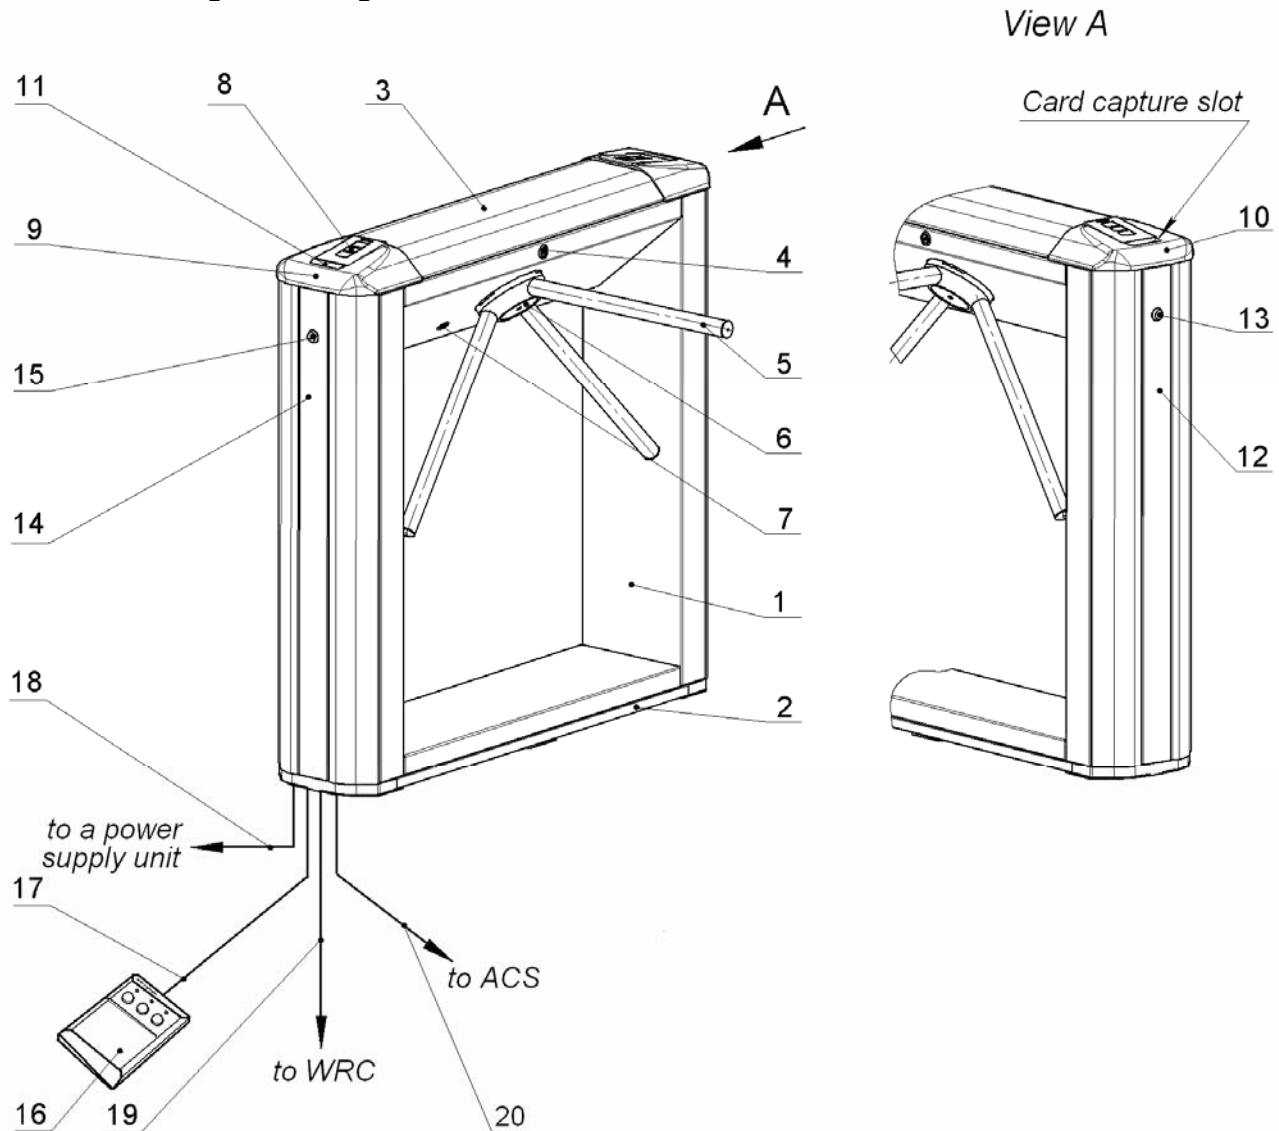

Fig. 2. TBC-01 overall view
5.2.1 Design of the turnstile is shown in Fig. 2. Numbers of the items hereinafter refer to the item numbers as shown in Fig. 2 unless stated otherwise.